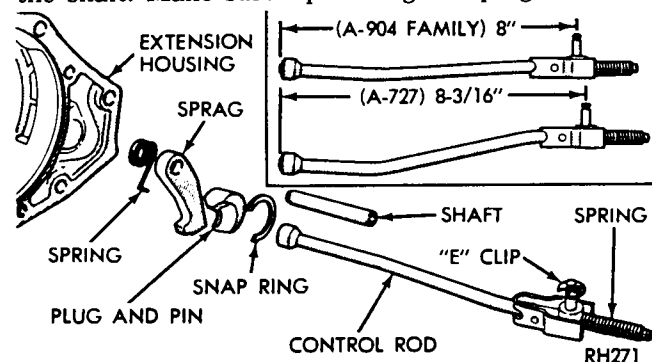

Fig. 12—Parking Lock Components
(1) Remove the extension housing as previously described.
(2) Slide shaft out of extension housing to remove the parking sprag and spring (Fig. 12). Remove snap ring and slide the reaction plug and pin assembly out of the housing.
(3) To replace the parking lock control rod, refer to "Valve Body—Removal and Installation."
(1) Install reaction plug and pin assembly in the housing and secure with snap ring (Fig. 12).
(2) Position sprag and spring in housing and insert the shaft. Make sure square lug on sprag is toward